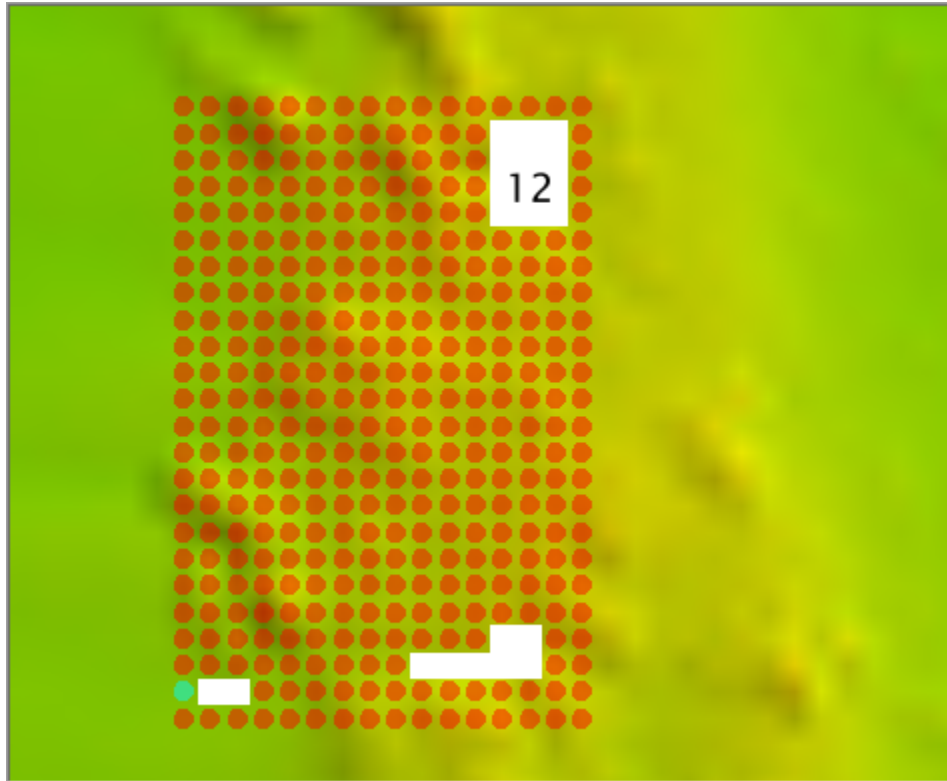

Fig. 2.18: Example for Full coverage.
- In the example in (Fig. 2.18), Full Coverage requirements identify the hole of 12 grid nodes, because there it contains an instance of 3x3 unpopulated grid nodes. The holes with 7 and 2 nodes do not.